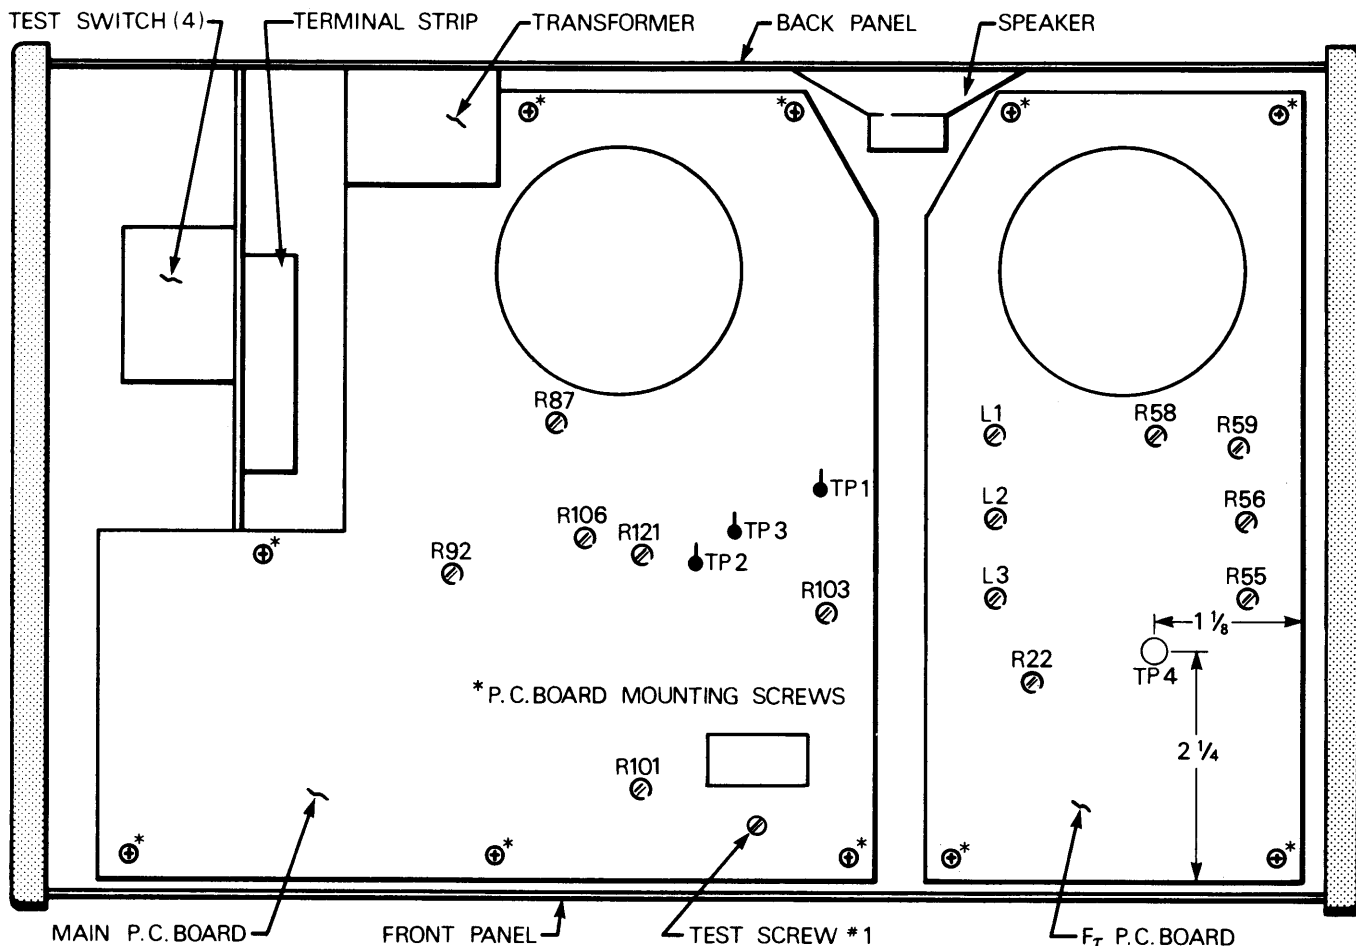
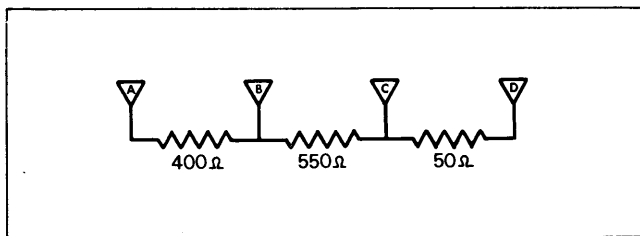
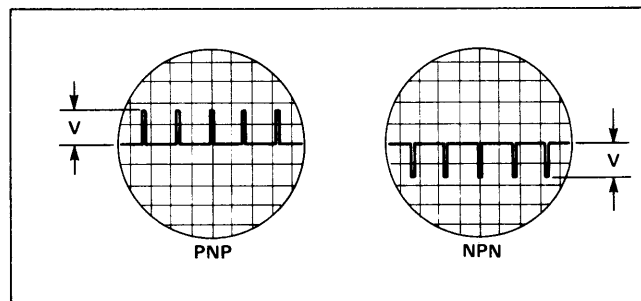
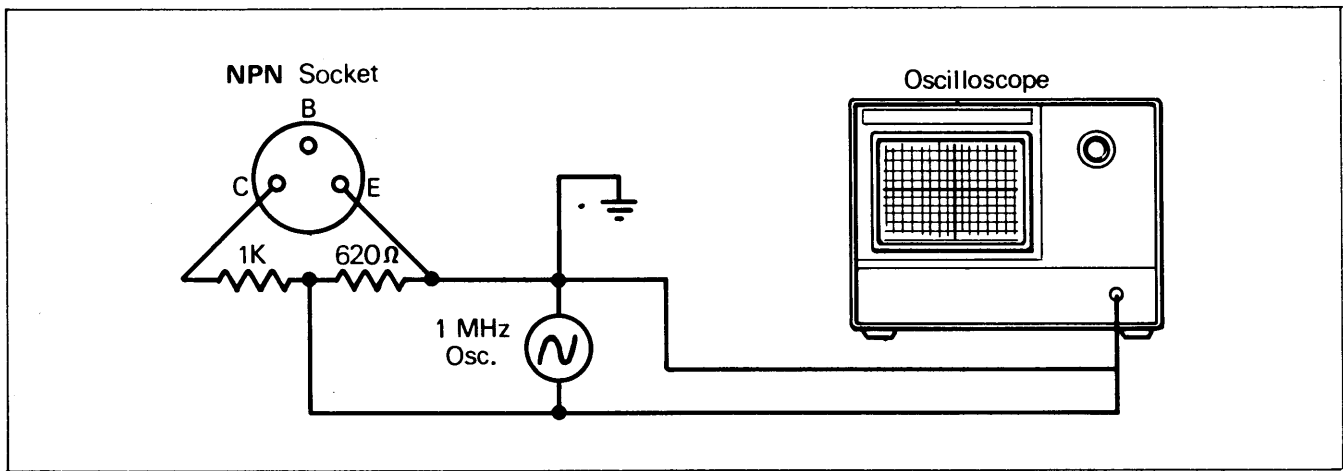

Fig. 8. Bottom view of Model 530, with bottom panel removed.
Fig. 9. Resistive network.
Fig. 10. Pulse voltage waveforms.
Fig. 14. Field calibration, *fr* circuit.
1. Turn the Model 530 power off. If LEAKAGE/GAIN meter (19) does not indicate zero, insert a suitable screwdriver in the hole just below the meter and adjust it to indicate zero on top scale.
2. Turn the Model 530 power on, if the LEAKAGE/GAIN meter (19) indicates zero on top scale, proceed to step #4. If the LEAKAGE/GAIN meter (19) does not indicate zero, turn the 530 power off, unplug the unit and remove the 530 bottom panel by removing the five screws (three on bottom panel and two on back panel).
3. Plug in the unit and turn power on. Adjust the zero control trimpot R-87 with suitable screwdriver so that meter is at zero. Refer to Fig. 8 for trimpot location.
4. With power on, set the HI PWR/LO PWR switch (10) to "LO PWR" position. Turn TRANSISTOR BETA/FET g_m switch (9) to "TRANSISTOR BETA" position. LEAKAGE/GAIN meter (19) should read zero on top scale; if not, remove bottom panel of the 530 and adjust zero β CAL
trimpot R-106 with suitable screwdriver (while holding the TRANSISTOR BETA/FET g_m switch (9) in "TRANSISTOR BETA" position) so that the LEAKAGE/GAIN meter (19) reads zero on top scale. Refer to Fig. 8 for trimpot location.
1. LEAKAGE/GAIN meter (19) should be zero calibrated as per section "A" above.
3. Set Test switch (4) to the top-most position. Set NPN/PNP switch (12) to "NPN/P-CH" position.
4. Connect a 5.1 K Ω resistor in series with a DC milliamp meter, to the blue and yellow test lead sockets (6) of the 530. (Blue socket should be connected to the positive lead of the external meter).
5. Press Model 530 PUSH-TO-TEST switch (13) and adjust front panel LEAKAGE VOLTS control (14) so that the external meter reads 0.9 milliamp DC.
- The Model 530 LEAKAGE/GAIN meter (19) should read $900 \mu\text{A}$ on top scale. If meter does not read $900 \mu\text{A}$, unplug the 530 and remove the bottom panel.
- Plug the 530 into the power source and repeat step #5. With suitable screwdriver, adjust trimpot R-103 so that LEAKAGE/GAIN meter (19) reads $900 \mu\text{A}$ on top scale. Refer to Fig. 8 for trimpot location.
- Build yourself a simple resistive network as shown in Fig. 9 (either by fixed resistors or by adjusting trim pots).
- Remove the small grounding TEST screw #1 and washer from back of the main P.C. board (at the corner next to the pushbutton switch). Refer to Fig. 8. Connect a lead between point "A" of the resistive network (Fig. 9) and main P.C. board test point 2 (TP-2); also connect a lead between point "D" (Fig. 9) and main P.C. board test point 3 (TP-3). Refer to Fig. 8.
- Set HI PWR/LO PWR switch (10), of the Model 530, to the "LO PWR" position. Set NPN/PNP switch (12) to the "NPN/N-CH" position. Lever Test switch (4) should be in the top-most position. Connect the blue test lead, which should be plugged into the blue test lead socket (6), to point "C" of resistive network (Fig. 9).
- Plug the Model 530 into the power source and turn power switch (11) on. Turn TRANSISTOR BETA/FET g_m switch (9) to "TRANSISTOR BETA" position. LEAKAGE/GAIN meter (19) should read "50" on LO β scale. If not, adjust main P.C. board trimpot R-121 with suitable screwdriver (while holding the TRANSISTOR BETA/FET g_m switch (9) in "TRANSISTOR BETA" position), so that the meter reads "50" on LO β scale. Refer to Fig. 8.
- Connect the blue test lead to point "B" of the resistive network (Fig. 9). Turn the TRANSISTOR BETA/FET g_m switch (9) to "TRANSISTOR BETA" position. The LEAKAGE/GAIN meter
(19) should read full scale. If not, adjust main P.C. board trimpot R-101 with suitable screwdriver so that LEAKAGE/GAIN meter reads full scale. Refer to Fig. 8. Unplug the Model 530 from power and disconnect all leads. Replace test screw #1 and washer to its original position. Refer to Fig. 8.
- LEAKAGE/GAIN meter (19) should be zero calibration as per section "A".
- Turn power switch (11) on and the DRIVE switch (10) to "LO" position. Connect the three test leads to a power transistor (any power transistor TO-3 package will do). Move Test Switch (4) through its positions until the unit indicates "GOOD" device (NPN/N-CH or PNP/P-CH lamp will light), and leave lever Test Switch (4) in that position.
- Set NPN/PNP switch (12) to either "NPN/N-CH" or "PNP/P-CH" position, as indicated by the "GOOD" LED polarity. Set HI PWR/LO PWR switch (10) to its "HI PWR" position.
- Turn TRANSISTOR BETA/FET g_m switch (9) to the "TRANSISTOR BETA" position. Observe oscilloscope. Record pulse voltage height (V) (Fig. 10).
1. Turn Model 530 off. If f_r OUT-OF-CIRCUIT meter (18) does not indicate zero, insert a suitable screwdriver in the hole just below the meter and adjust it to indicate zero on the top scale.
3. Turn Model 530 power on. Without any transistors plugged into f_r sockets (15) or (16), check for f_r meter (18) reading of zero for each range selected on the RANGE, MHz Switch (17). If the f_r meter (18) does not read zero, adjust R-55 to obtain a zero reading (Fig. 8).
- (d) Adjust R-22 for a collector current of 10 milliamperes (See Fig. 8 for location of R-22).
- (b) Insert NPN transistor into front panel socket labeled NPN (16). All frequency measurements are taken at TP-4. See Fig. 8 for location of TP-4 and oscillator coils.
- (a) Connect two resistors in series and connect to Model 530 NPN Transistor Socket (16) as shown in Fig. 14. Turn power on. (See Fig. 8 for location of R-56, R-59 and R-58).
- (b) Set Range Switch (17) to 0-100.
- (d) Adjust R-56 for a reading of 60 on the top scale of the *fr* meter (18).
- (e) Set Range Switch (17) to 0-500.
- (g) Adjust R-59 for a reading of 60 on the top scale of the *fr* meter (18).